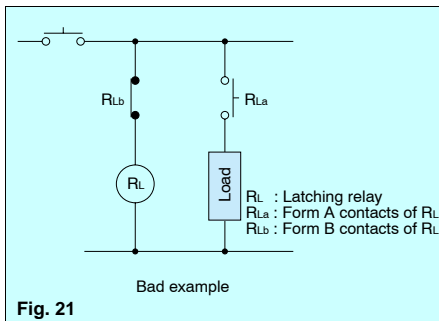

Fig. 21
- Avoid using the following circuit since self-excitation at the contacts will inhibit the normal keep state. (Fig. 21)